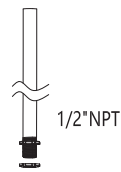

Figure 8
1. Unscrew the nuts on 1/2" NTP. (Figure 8)